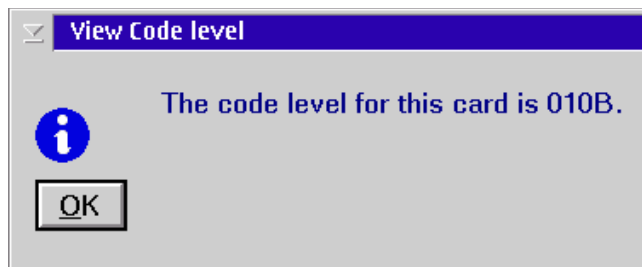

Figure G-1 View code level
2. Starting at the Advanced Facilities panel, click **View Code level**, and click **OK**. The View Code Level panel is displayed (Figure G-1).